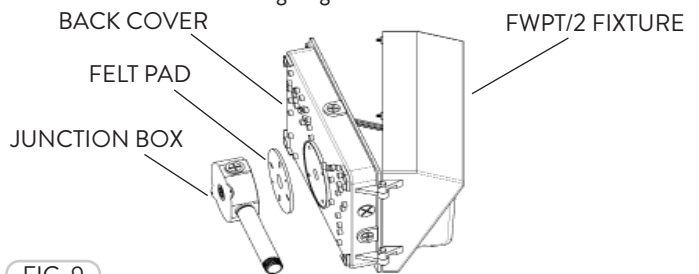

FIG. 9
- 3 Place the Felt Pad (with pre-cut hole patterns) between the Junction Box and Back Cover. Fasten the Junction Box to the Back Cover of the FWPT/2 fixture (Fig. 9). Apply sealant where necessary (Not included). Refer to wiring diagram.